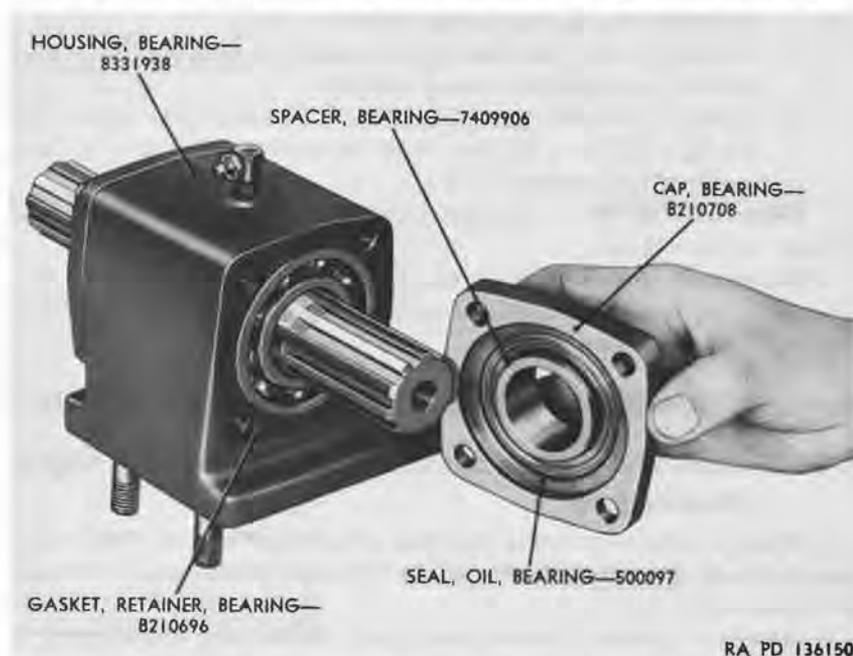

Figure 97. Removing bearing cap, oil seal, and spacer.
c. Remove four capscrews and lockwashers from bearing cap. Remove bearing cap, spacer, oil seal, and cap gasket from bearing housing (fig. 97).